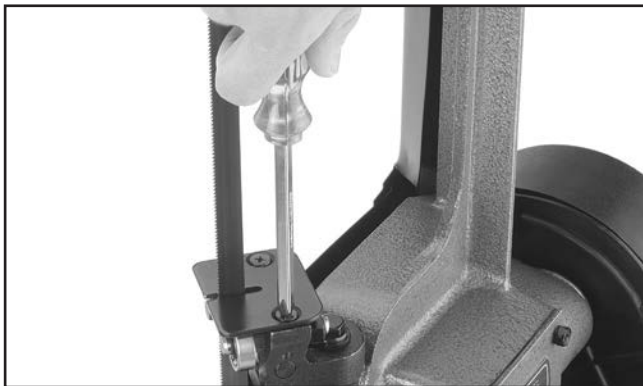

Figure 21. Location of flat head screws holding blade guide cover.
1. Remove the two flat head screws and blade guide cover (see **Figure 21**).